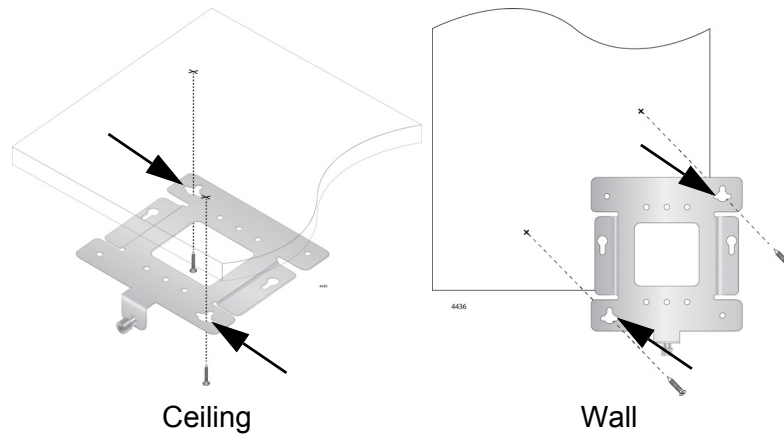

Figure 8. Marking/Pre-Drilling Holes for Key-Hole Slots
- Using the mounting bracket as a template, mark the two key-hole slots with a pencil in the location and orientation where you want to install the access point. Refer to the arrows in Figure 8.